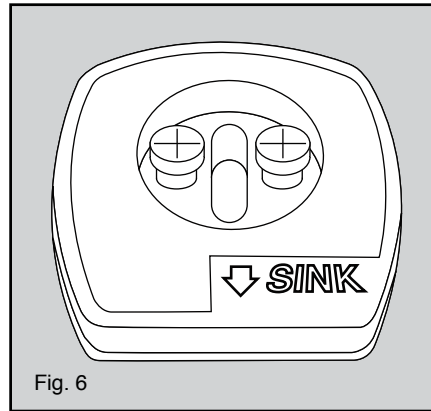

Fig. 6
7. Rotate the support shaft so the arrow points toward the sink (see figure 6).